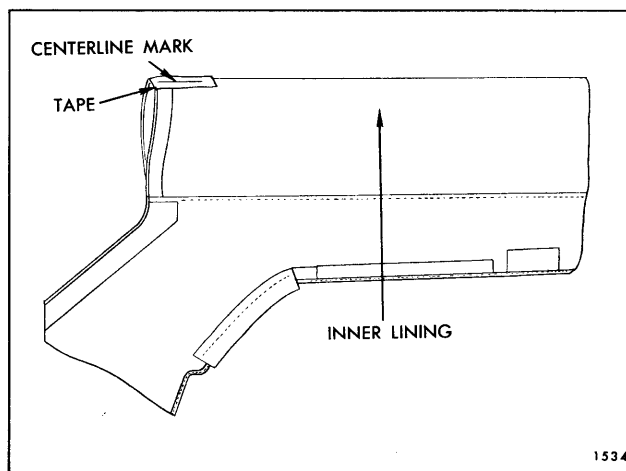

Fig. 13-35—Marking Folding Top Material
4. Fold new top material in half so that inner lining of top material is exposed (Fig. 13-35). Install a 6" piece of tape on inner surface at centerline fold of new top material (Fig. 13-35). Using a pencil, mark the approximate centerline of new top material along entire length of tape.